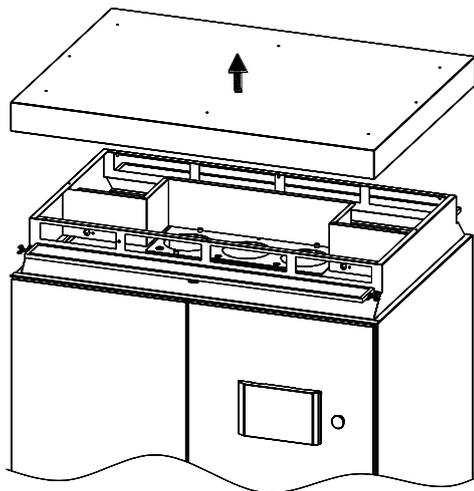

Figure 7-3 Disassembling of top cover
- (1) Remove the eight M5 screws on the top of inverter with a T25 spline screwdriver and then take off the cover, as shown in Figure 7-3.